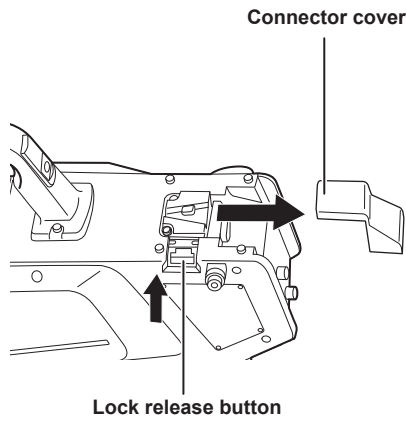

Fig. 1
- 2** Press the lock release button and remove the connector cover. (Fig. 1)